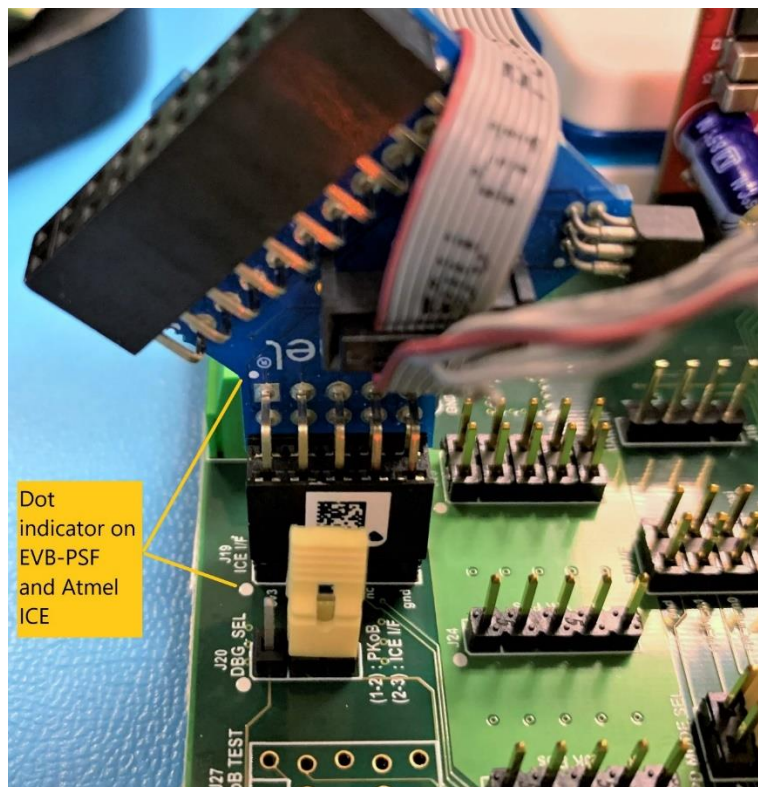

Figure 5.3 Connecting Atmel-ICE Debugger to J19
5. Connect one end of Atmel ICE to PC using USB Micro-B cable and the other end to J19 of EVB-PSF. A dot (encircled in image) will be present in Atmel ICE Adapter board which gives an indication that this pin should be connected to 3v3 of J19. Refer Fig 5.3,